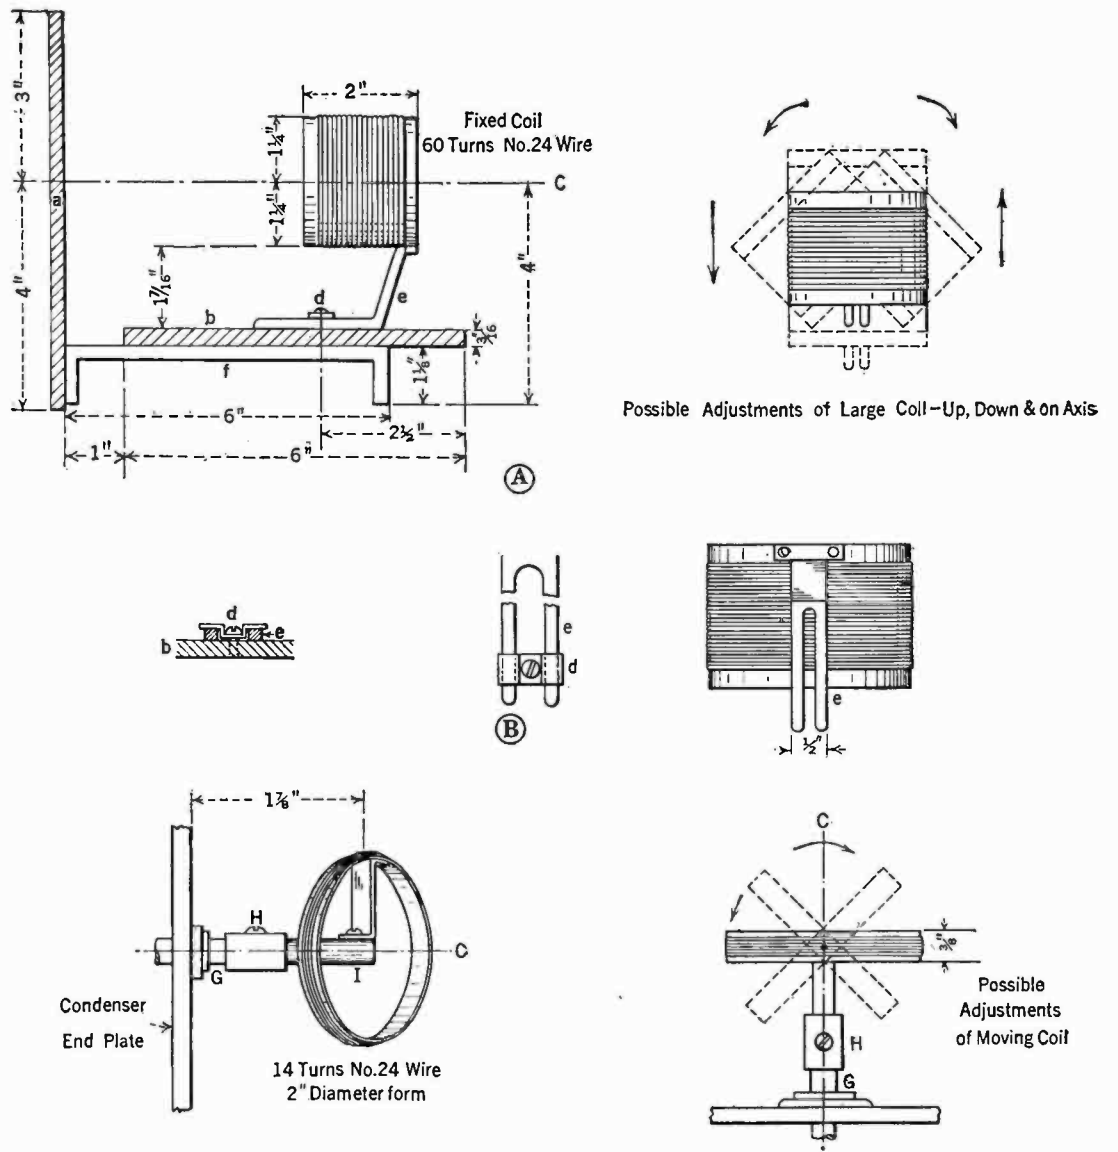

FIG. 2
**A**S WILL be seen in Fig. 2, the primaries are wound with fourteen turns of No. 24 wire on a 2-inch form, and the secondaries with 60 turns, of the same size wire, on  $2\frac{1}{2}$ -inch forms. It will be observed that relatively large primaries are made possible in the Equamatic arrangement, insuring adequate transfer of energy
The mechanics of securing this arrangement are illustrated in Fig 2. Drawing A shows the dimensional characteristics of the stationary coil mounting. The front panel is designed by a, the sub-panel by b; c, in all drawings, is a line passing through the center of the condenser shaft; d is a machine screw with a square washer holding the coil bracket, e, to the sub-panel; f is a bracket of 1/8" brass strip, 6" long, holding the sub-panel to the control panel. Drawing B continues the details of the coil bracket, e, and the manner in which it slides through the swivel screw and washer d, on the sub-panel, b.
made clear by reference to Fig. 5. The reader interested in the mechanical construction of home-made mountings is referred to the preceding article, and to the data given in Fig. 2 of this article. The small "pillboxes" to the right of the two right-hand tubes are the retard coils.